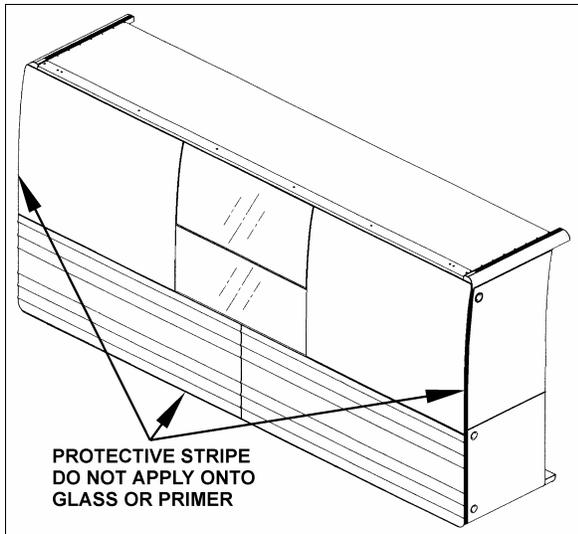

FIGURE 1
4. Remove a length of 4 inches from self-adhesive vinyl tape protective film. Position the protective stripe onto each lateral panel and also underneath slide-out (refer to figures 1, 2 and 3).